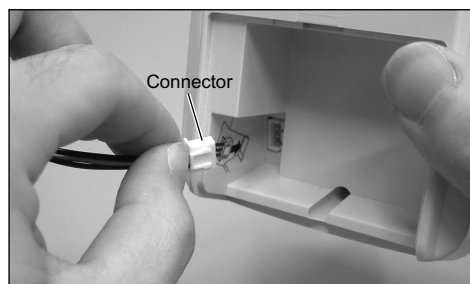

Fig. 14
- ③ Take out the old batteries, and pull out the cord, holding it at the connector. (Fig. 14)